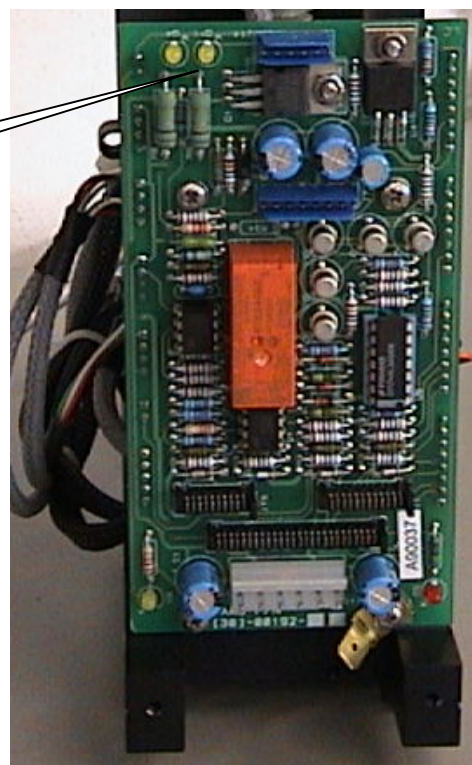

Fig. 9 Sampling Interface assy
3. Touch the sampling probe with your finger and make sure that the level sensor LED on the Sampling Interface assy turns on approximately one second, when the probe is touched (Fig. 9).